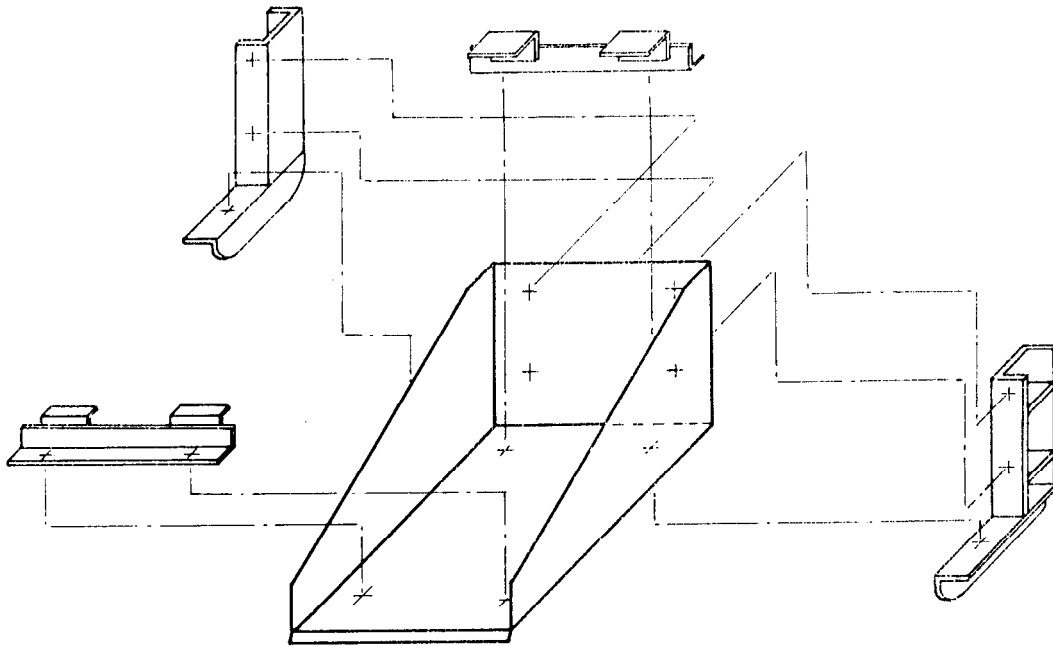

FIG 4 - ASSEMBLY OF BATTERY BOX LOWER, CHASSIS BRACKETS
- c. Retain battery box in place using the 5/8 inch diameter bolts, washers and nuts, (use new lock washers), fit the near battery clamp as per Fig 4 and secure in place using items 1, 3, 4 and 5 of Table 1, tighten the 5/8 inch diameter nuts and bolts.
- d. Place batteries into battery box (end on and side by side), secure with front battery clamp using items 2, 3, 4 and 5 of Table 1.